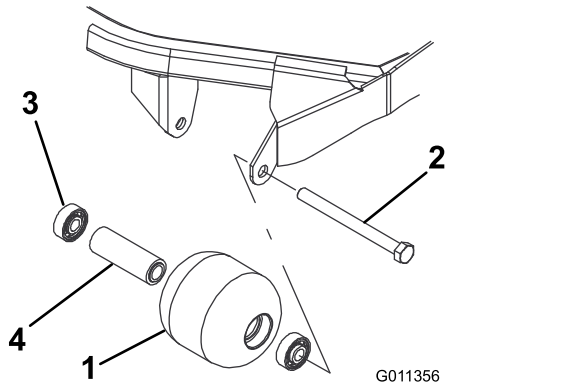

Figure 82
1. Remove the roller-mounting bolt (Figure 82).
4. Inspect the roller housing, bearings, and bearing spacer for damage (Figure 82). Replace any damaged components and assemble them.
1. Press the first bearing into the roller housing (Figure 82). Press on the outer race only or equally on the inner and outer race.
2. Insert the spacer (Figure 82).
3. Press the second bearing into the roller housing (Figure 82). Pressing equally on the inner and outer race until the inner race contacts the spacer.